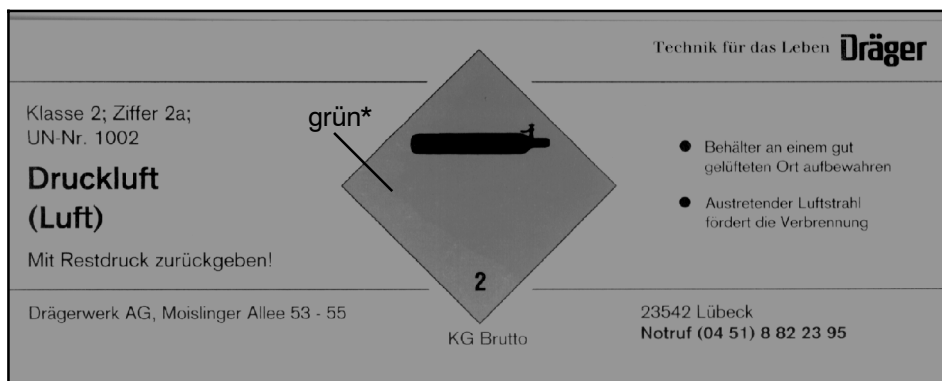

Fig. 33 Danger label no.2
- In every case the compressed air cylinders must be marked according to Rn. 2224 para. 1 with a danger label No. 2 (gas cylinder black or white on green* background, small number "2" in the bottom corner), see Fig. 33.